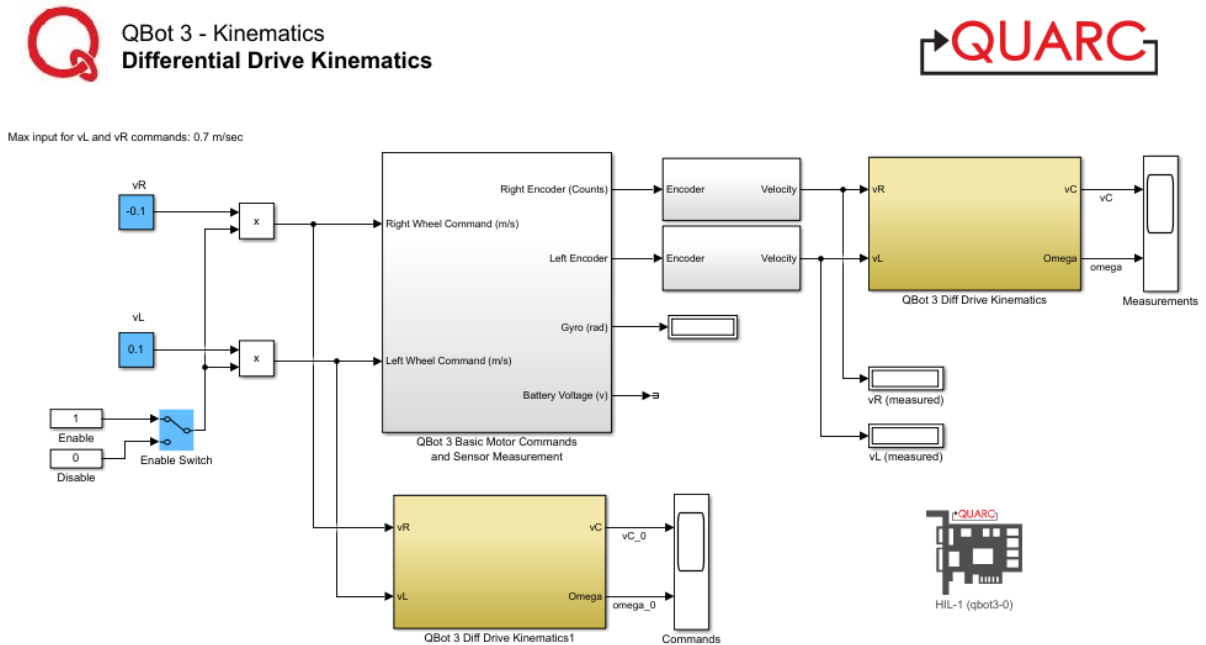

Figure 2.1: Snapshot of the controller model QBot3\_Diff\_Drive\_Kinematics.mdl
The Simulink model for this exercise is QBot3\_Diff\_Drive\_Kinematics.mdl the snapshot of which shown in Figure 2.1.
1. Wait 5 seconds until the QBot 3 has fully initialized, and then enable the movement of the robot using the manual switch shown in Figure 2.1.